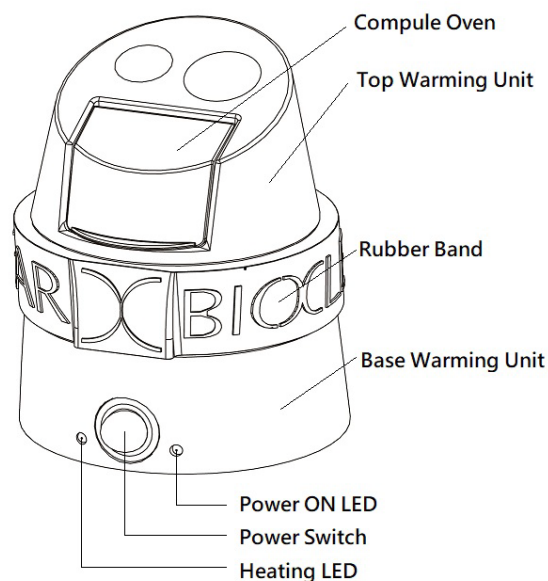

Fig. 1 System Components
- Align the "X" mark at rubber band at front side of "Base Warming Unit" as shown Fig. 1.